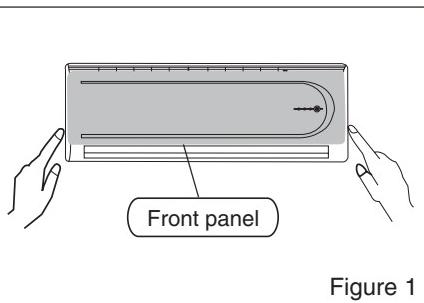

Figure 1
- Gently push both sides of the frontal panel at the bottom and pull it to this side till a resistance is felt (see Figure 1). Do not open the frontal panel at an angle over 60 degrees.